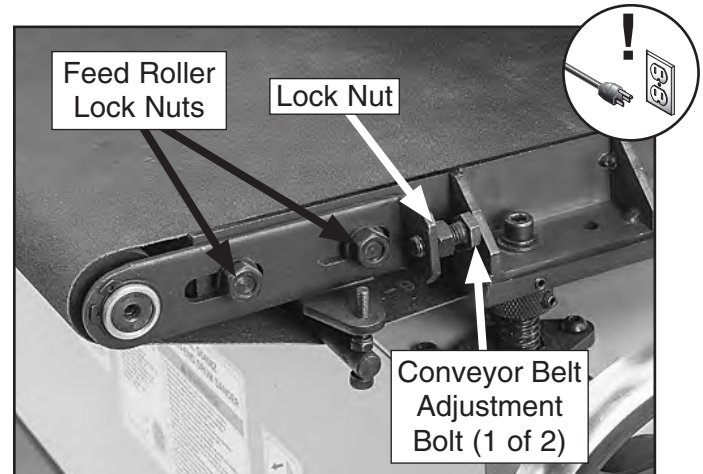

Figure 39. Conveyor belt tensioning controls.
1. Loosen feed roller lock nuts, shown in **Figure 39**, on both sides of conveyor belt.